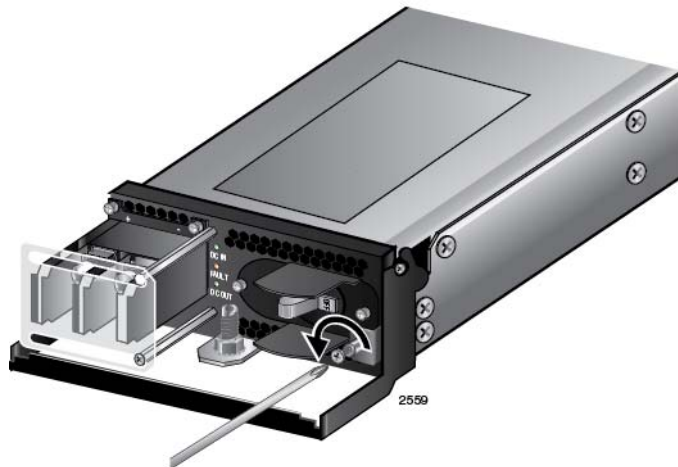

Figure 70. Loosening the Handle locking Screw on the AT-SBxPWRSYS1 DC System Power Supply
5. With a #2 Phillips-head screwdriver, loosen the handle locking screw on the power supply, as shown in Figure 70.